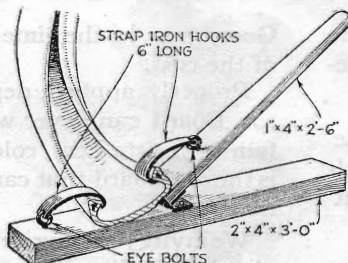

Fig. 4. Plenty of leverage enables you to inspect every part of the inside of an automobile tire with this simple device
D. A. JEWETT, of Beaver City, Nebr., wins the \$10 prize this month for his suggestion of a device to make tire inspection easy (Fig. 4).